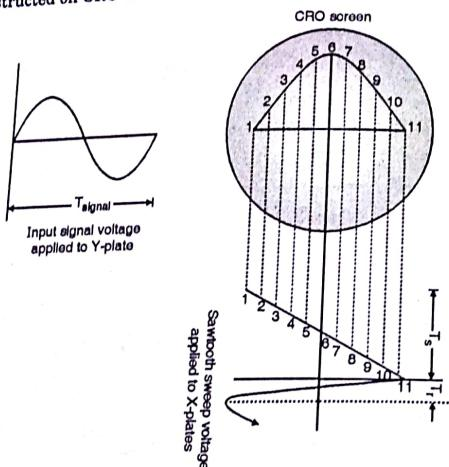

Fig. 7.14.5(b) : When  $T_{\text{signal}} = 2 T_{\text{sweep}}$
- In Fig. 7.14.5(a) and Fig. 7.14.5(b) it must have been observed by the reader that horizontal sweep signal to x-plate deflection must be applied at the same time when input signal on vertical deflection (Y plate) in order to have stationary wave pattern.